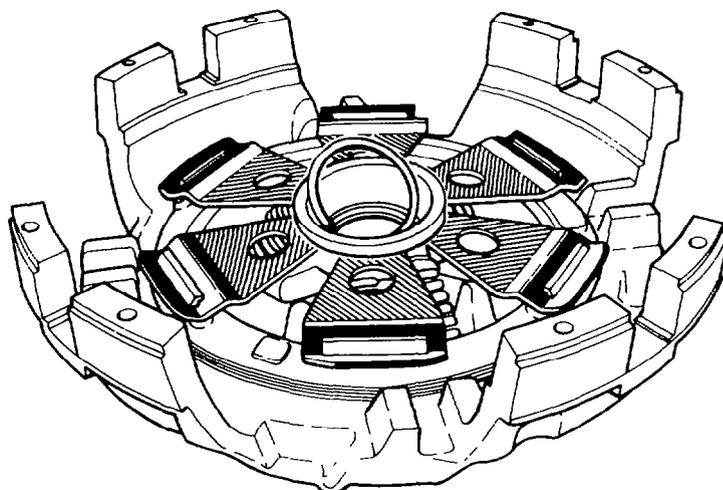

Fig. 162 — Removing Snap-ring
- f. Remove the snap-ring from the release sleeve retainer (see fig. 162).